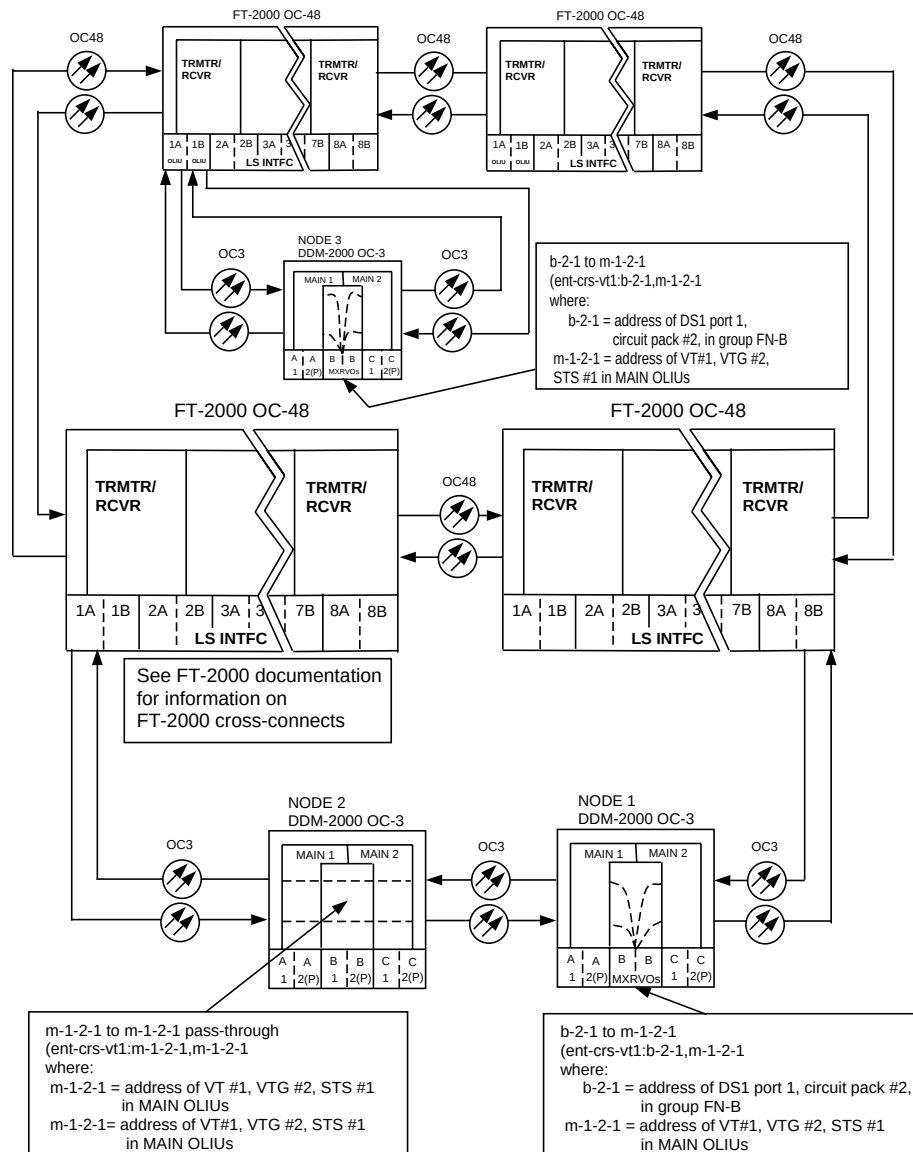

Figure 5. Example of Single/Dual Homing OC-48/OC-3 Cross-connections
11. At both terminating (drop) nodes of the circuit being established, use the **ent-crs-()**: command to make the terminating cross-connections at OC-3 nodes (for example at the OC-3 Node 3 in Figure 5, **ent-crs-vt1:m-1-2-1,b-2-1:cct=twoway**)